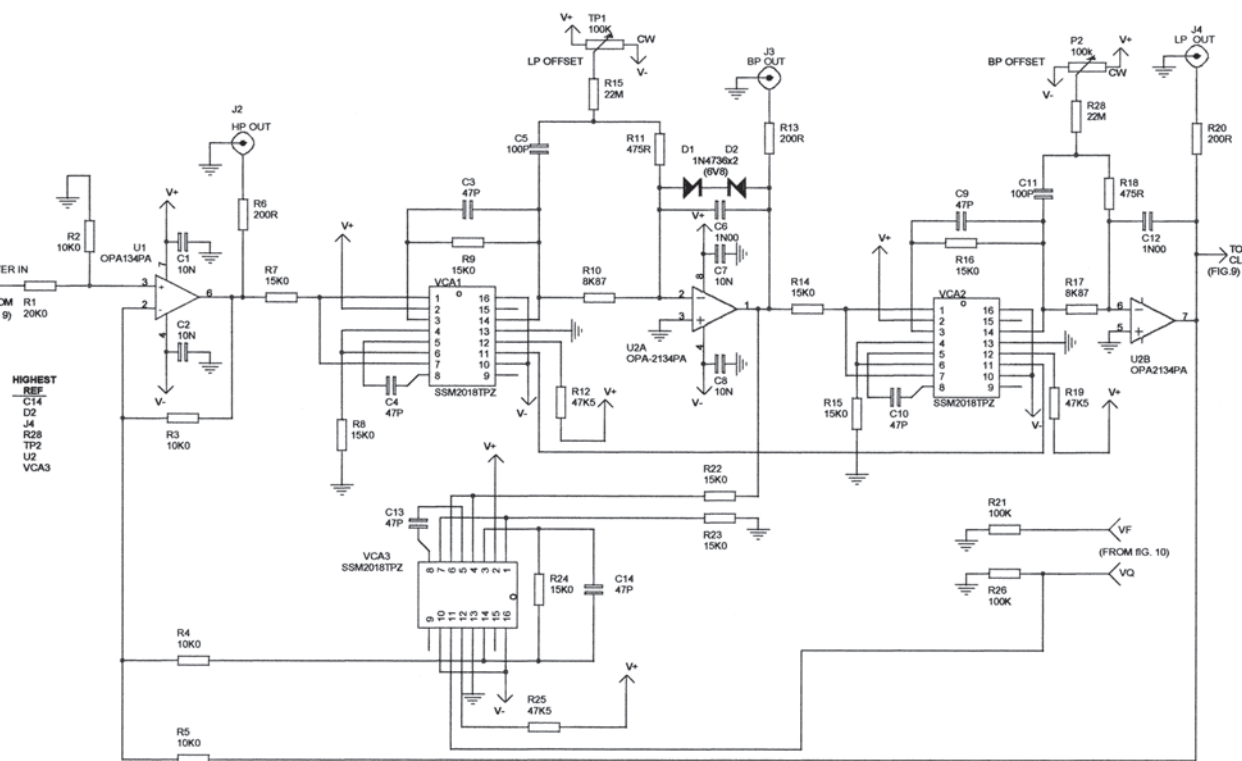

FIGURE 8: Multimode active filter.
The circuit (Fig. 8) follows the topology of Fig. 1. U1 is the input and feedback (FB) summing amp, and U2A, U2B are